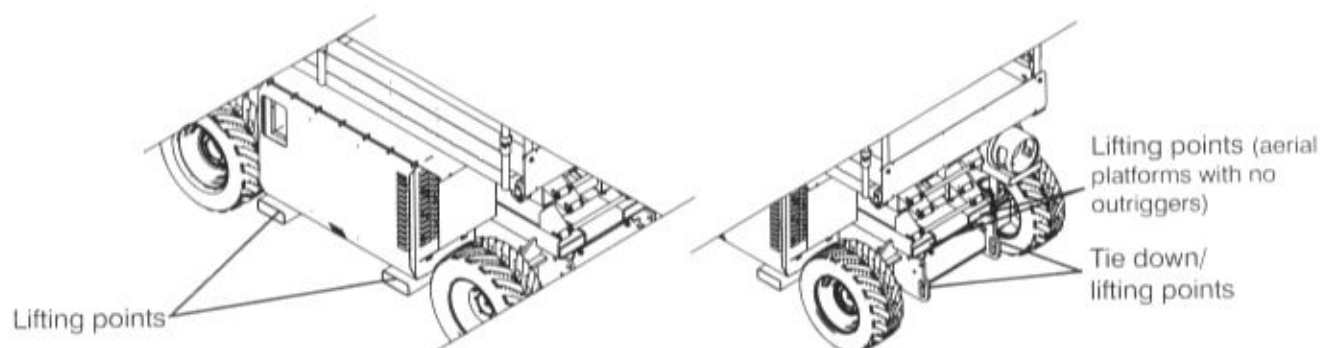

Figure 3-9. Tie Downs/Lifting Points
- The lifting/rigging must be attached to all twelve lifting points as illustrated in Figure 3-9.
When transporting, the aerial platform must be secured to the truck or trailer deck. Tie downs are available as illustrated in Figure 3-9.